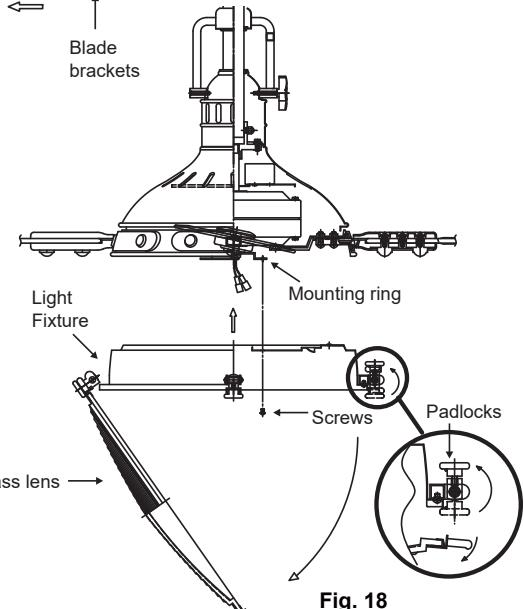

Fig. 18
**Step 1.** Loosen the two screws on the mounting ring attached to the motor shaft and "remove" and save the third screw. (Fig. 18)